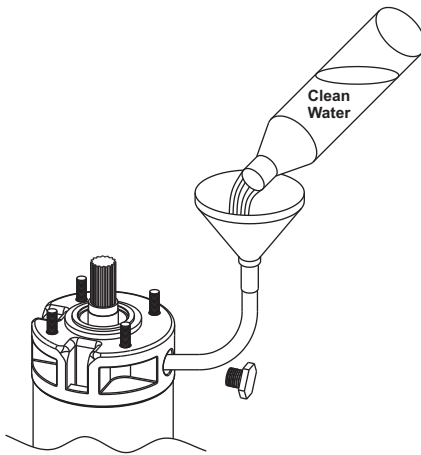

Fig. 3 Location of water filling hole in 8" & 10" Water Filled motor
1. Place the motor in an upright position as shown in fig. 3.
4. Carefully fill clean water into the motor, see fig. 3, until the water runs back out of the filling hole.